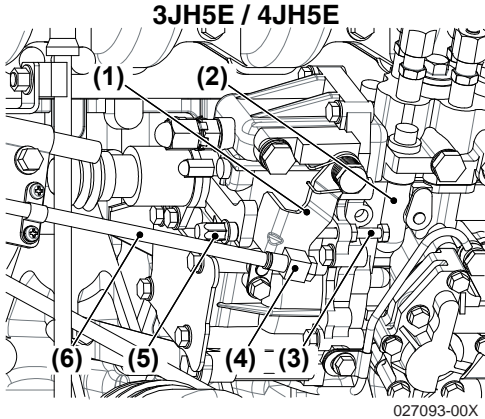
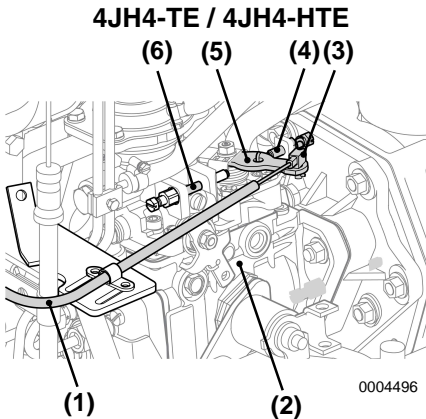

Figure 5
Figure 6
1. To adjust, loosen the adjustment screw (**Figure 5, (4)**) or cable fitting (**Figure 6, (3)**) for the remote control cable on the engine side and adjust.
2. Adjust the high-speed stop (**Figure 5, (5)**) or (**Figure 6, (6)**) position first and then adjust the low-speed stop (**Figure 5, (3)**) or (**Figure 6, (4)**), with the adjustment screw on the remote control lever (**Figure 5, (1)**) or (**Figure 6, (5)**).